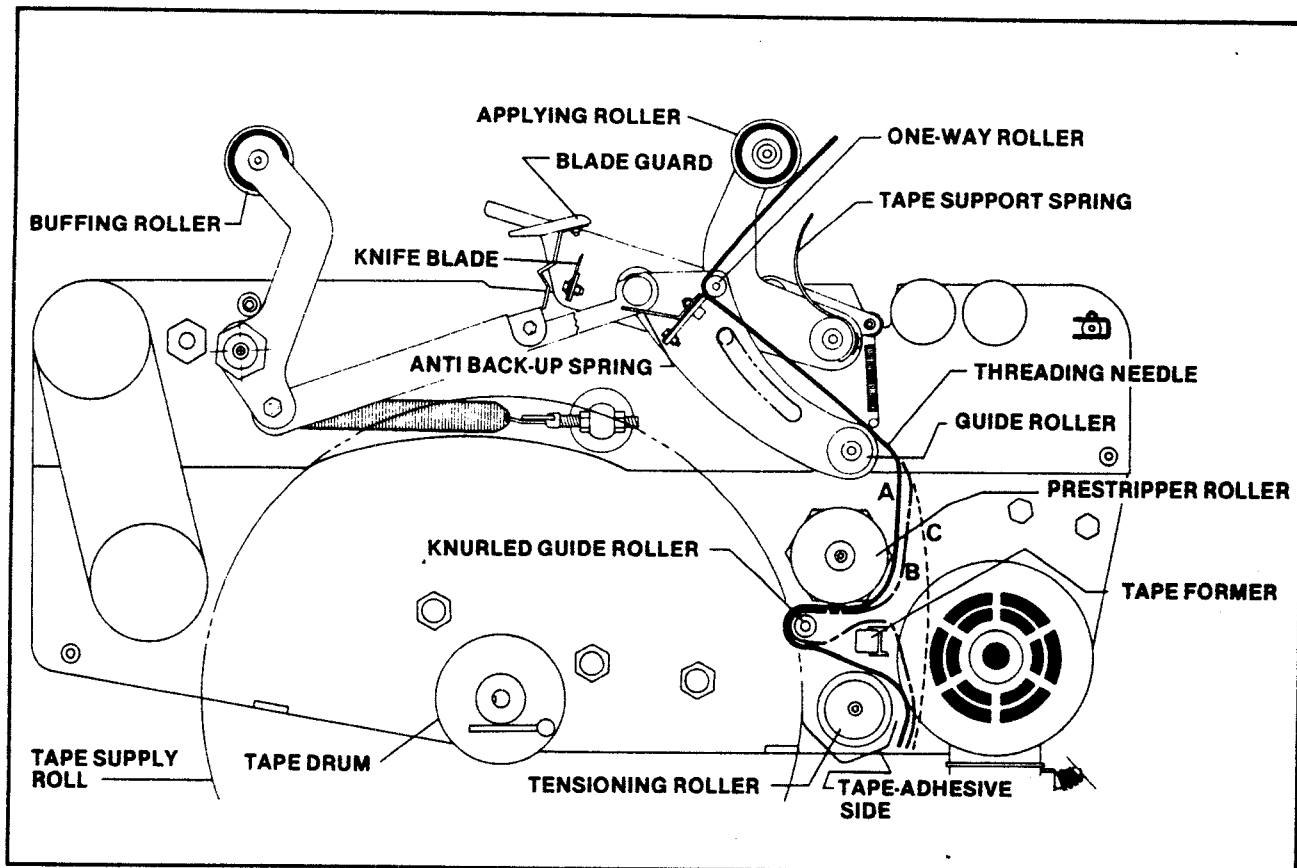
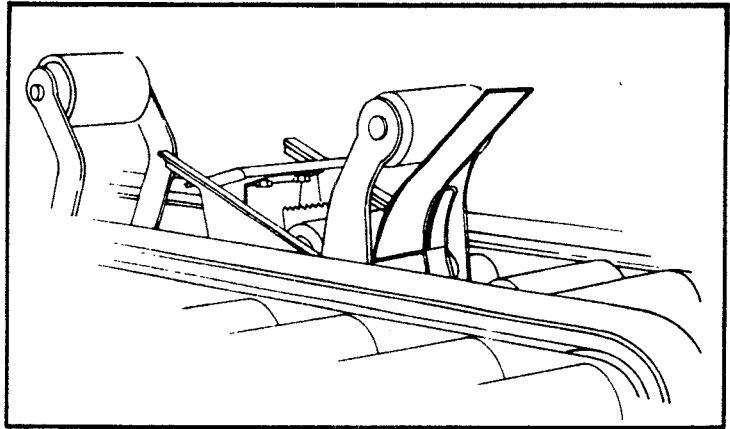
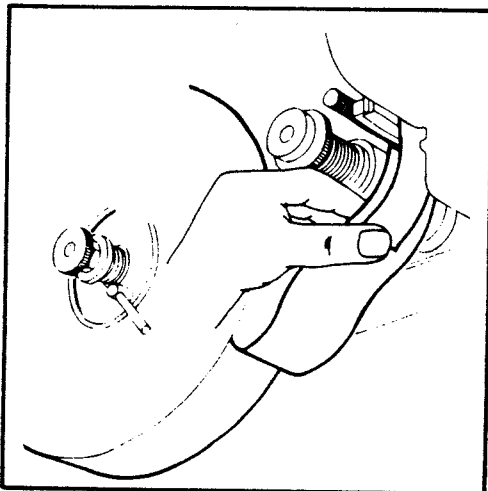

FIGURE 15 TAPE THREADING DIAGRAM - BOTTOM TAPING HEAD - LEFT SIDE VIEW
FIGURE 15B
FIGURE 15C
- 1) With the temporary threading needle already in position, as shown in figure 15, follow the tape loading procedure from figure 15C to complete the tape threading with this exception; thread tape around tensioning roller, former, knurled guide roller and prestripper roller in one of three paths depending on the type tape and application.
Figure 15B - Thread upper end of needle between support spring and applying roller as shown. Thread lower end of needle around guide roller as shown in figure 15 and through path A, B or C.
Figure 15C - Place tape roll fully onto tape drum to dispense tape toward tensioning roller adhesive side down. Turn eccentric roller lever outward to secure tape roll. Adhere tape lead end to lower end of threading needle as shown.